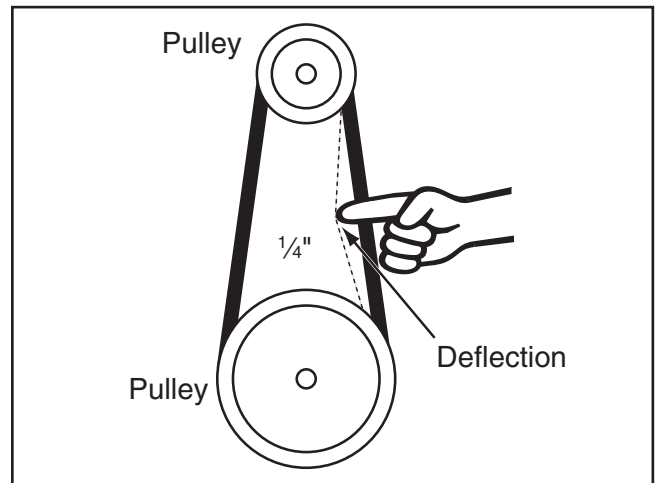

Figure 121. Checking belt tension.
5. Press the belt in the center to check belt tension. The belt is correctly tensioned when there is approximately $\frac{1}{4}$ " deflection when it is pushed with moderate pressure, as shown in **Figure 121**.